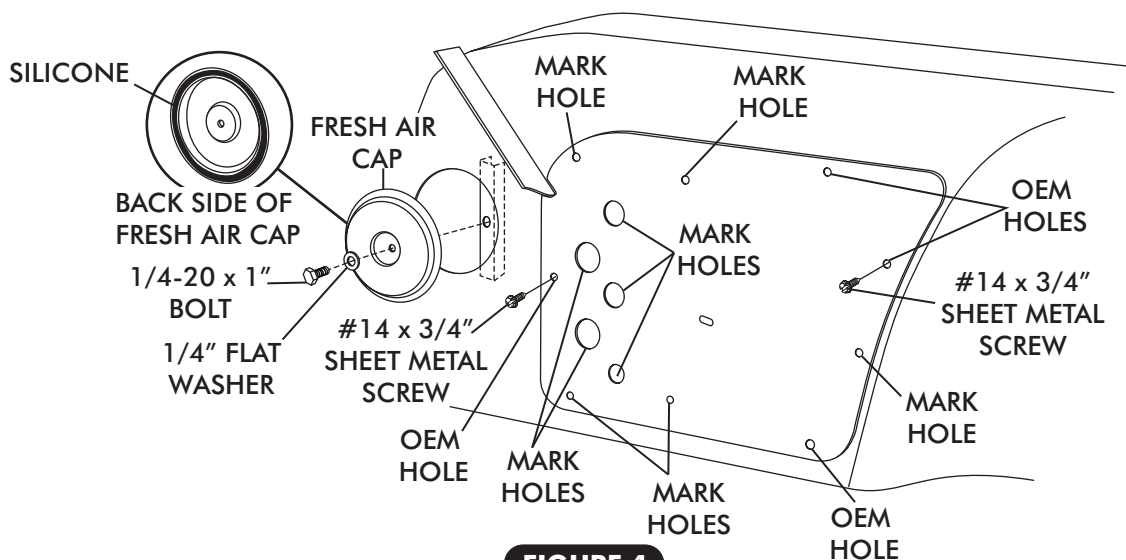

FIGURE 4
- APPLY A 1/4" BEAD OF SILICONE AROUND THE BACK SIDE OF THE FRESH AIR CAP AS SHOWN IN FIGURE 4, BELOW.
- ATTACH FRESH AIR CAP TO FIREWALL USING A 1/4-20 x 1" BOLT AND WASHER. SEE FIGURE 4, BELOW.
- PLACE FIREWALL COVER ON FIREWALL AND SECURE USING (2) #14 x 3/4" SHEET METAL SCREWS AS SHOWN BELOW.